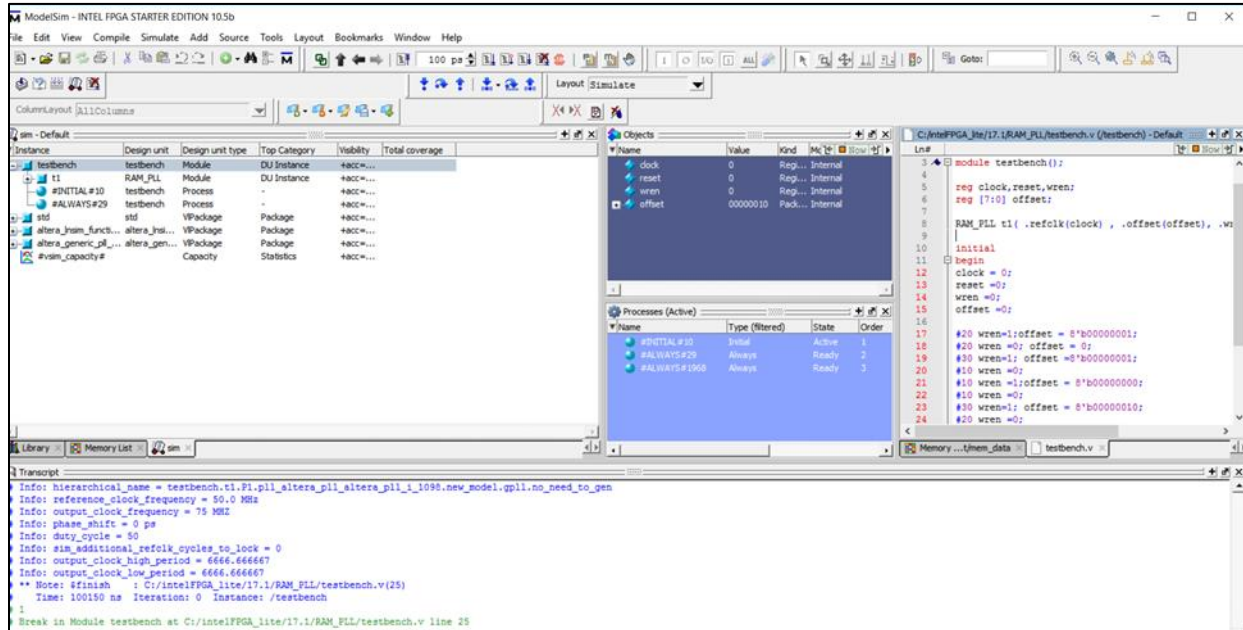

FIGURE 18 MODELIM GUI
9. If you have used ModelSim before and know how to move around the various tabs, you may not see the same layout as shown in Figure 18. You can go to Layout → Reset to get the same layout of the GUI.